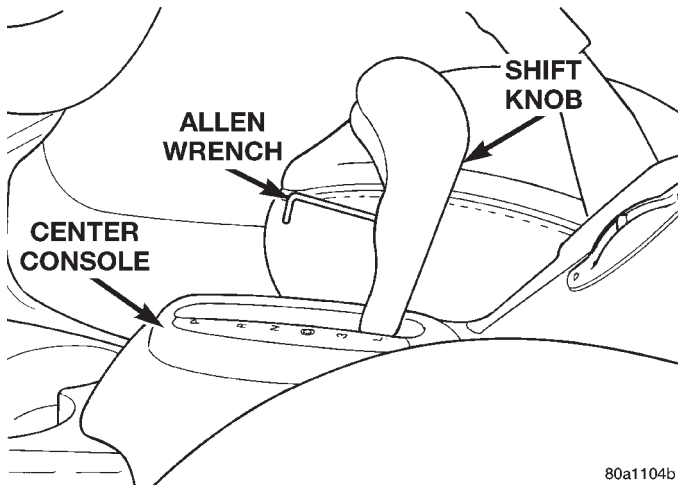

Fig. 130 Shift Knob Retaining Screw
(14) Install the shift knob on the shifter. Install and securely tighten the shift knob retaining screw (Fig. 130).
(1) Remove the shift knob from the shifter. The gear shift knob is attached to the shifter using a set screw (Fig. 130). Access to the set screw is from the front of the shift knob and is removed using a 2 mm allen wrench.